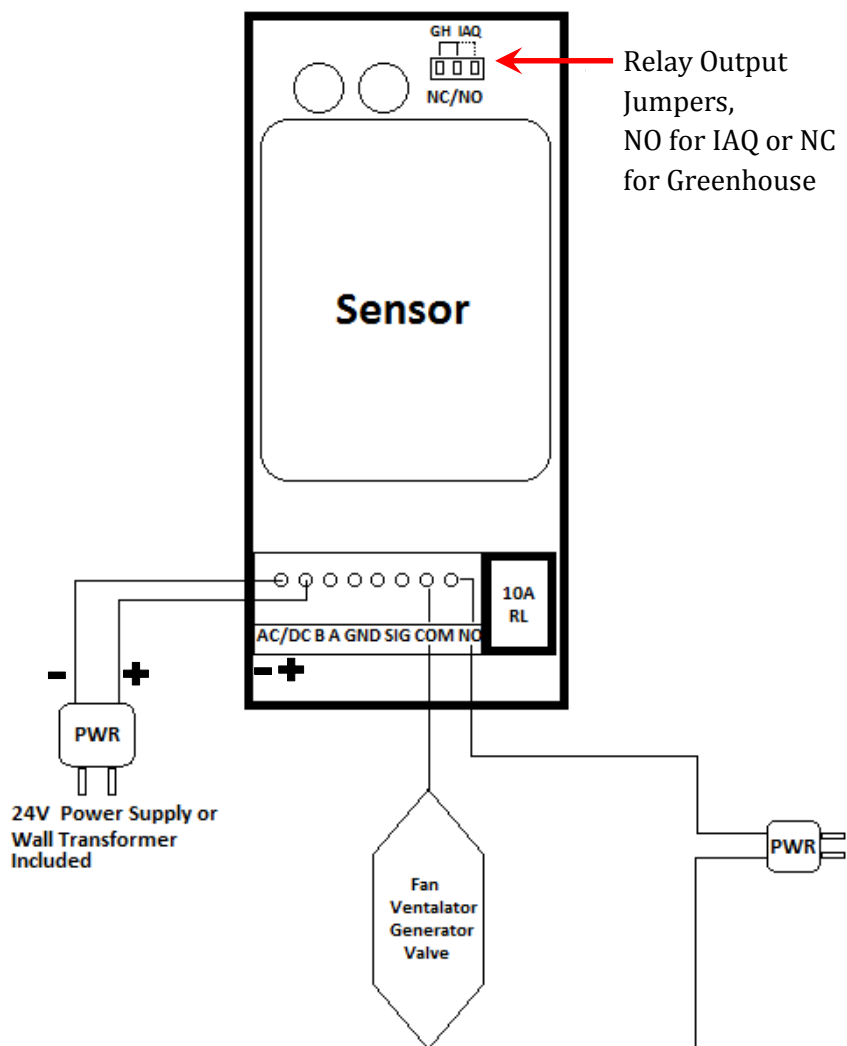

Figure 7: Level controller connection setup
2. Open the meter to expose its internal board and be able to access the connector pin bay. Simply remove all four (4) Philips screws and lift the enclosure lid.
3. Connect power cable of external device to relay output pins (COM and NO) as shown in **Figure 7** on page 15.
4. If hardwiring for powering the meter is required, go ahead and connect to 24VDC power source as shown in **Figure 7** on page 15. **CAUTION: Risk of electric shock. Turn OFF system power before making this connection.**
8. Close the enclosure lid and tighten all four (4) screws.